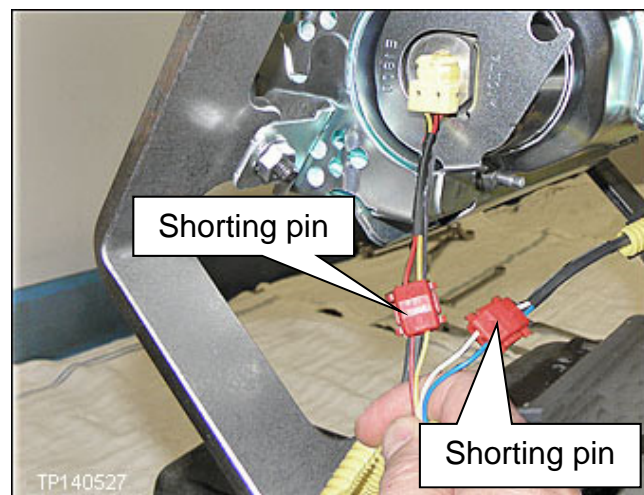

Figure 21
22. Attach two (2) shorting pins to the air bag inflator wire harness, as shown in Figure 21.